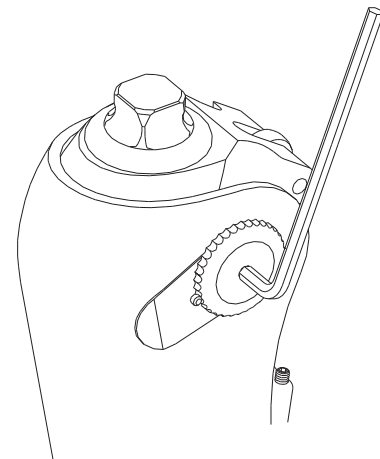

Fig.7
3. Using a hexagonal wrench (4mm), tighten the knee axis screw a single thread and check for looseness. If still loose, repeat the knee axis screw tightening procedure. However, be aware that over-tightening will cause an increased resistance to bending and extending motion. (See Figure 7)